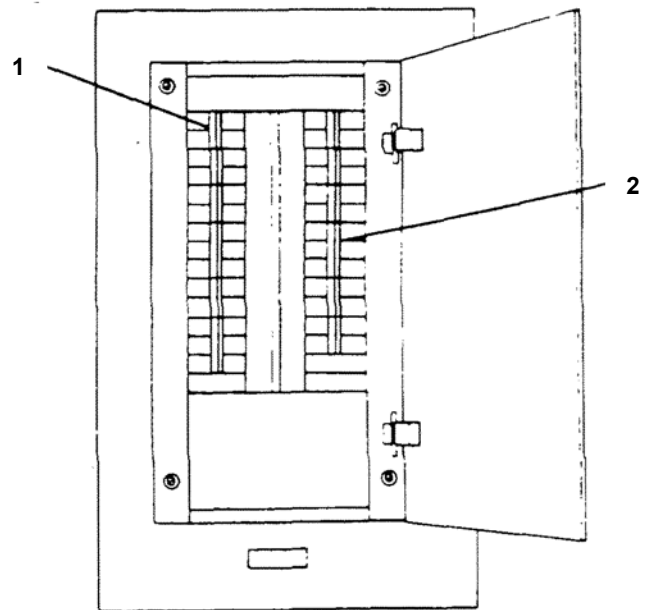

Figure 2-186. Main Deck Distribution Panel No. 3.
(b) Main deck distribution panel no. 3 (Figure 2-186). Set MAIN DECK DRINKING FOUNTAIN circuit breaker (1) to ON position.